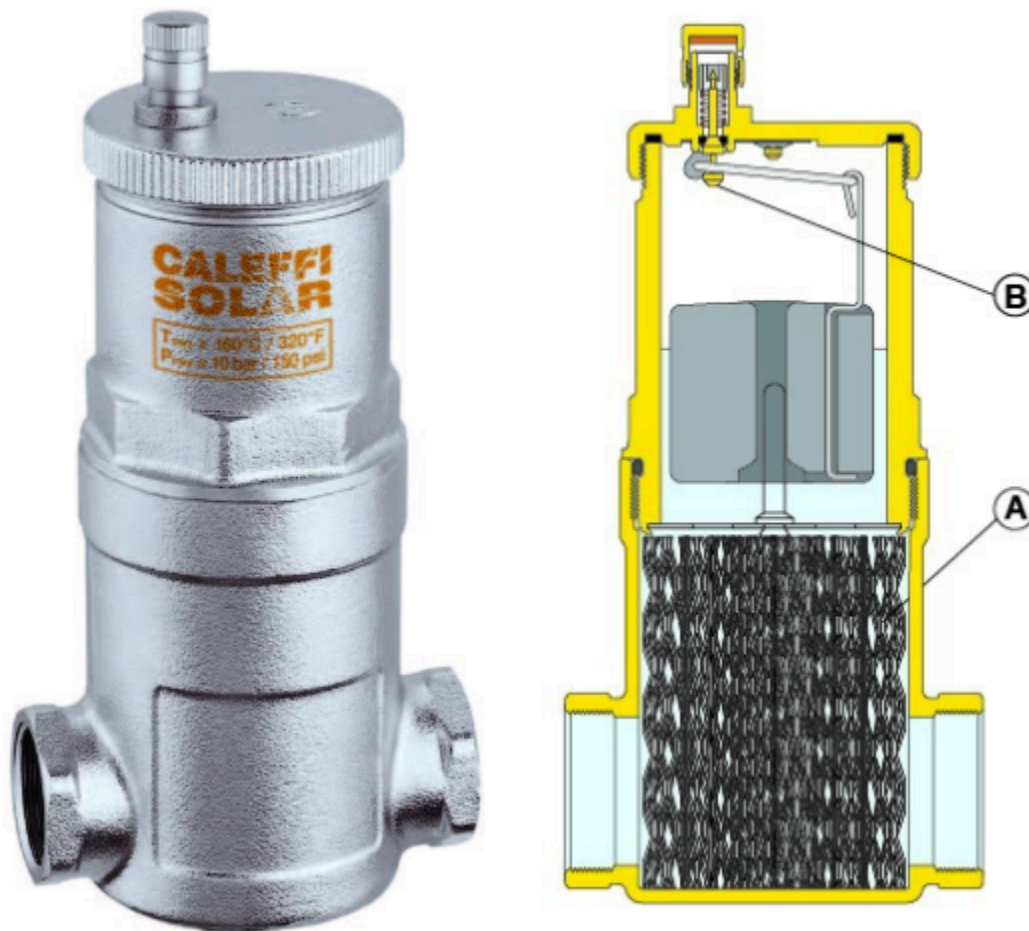

Figure 14 Air separator
- Figure 14 Air separator © [Caleffi Hydronic Solutions \(https://www.caleffi.com/usa/en-us\)](https://www.caleffi.com/usa/en-us). Used with permission.